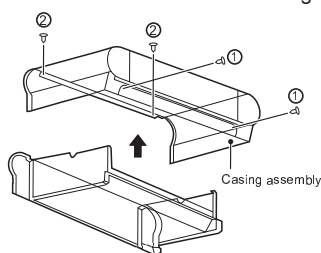

Figure 4-6 Removal of casing
- As shown in Figure 4-6, remove screws ①\*2 and ②\*2 and then the casing.